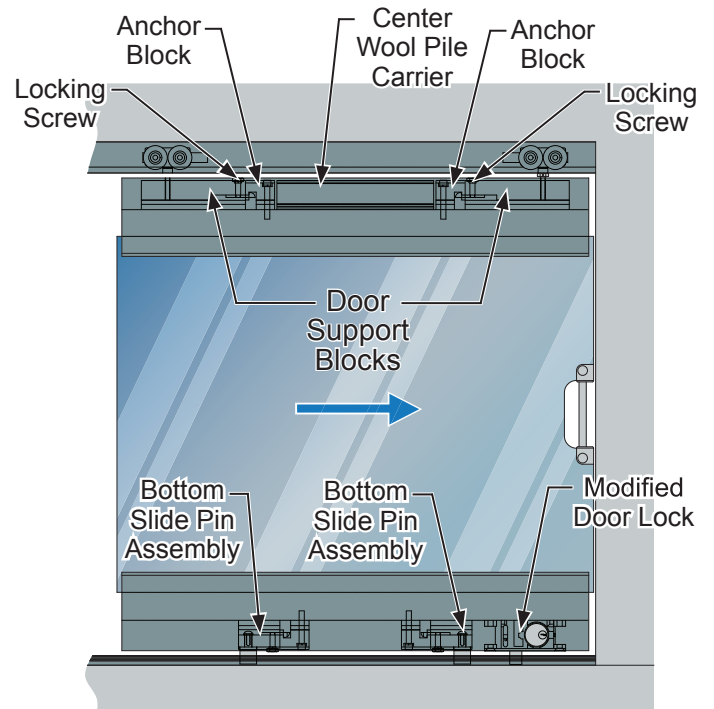

FIG. 10
2. Align the end of the top rail with the door support block. Slide the door support block into the top rail until it contacts with the anchor block. While maintaining contact, tighten the locking screw. Repeat this process at the other end of the top rail. **(FIG. 10)**